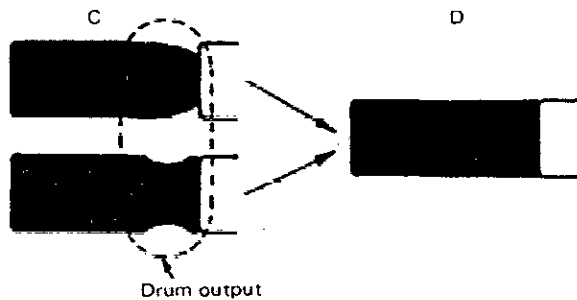

Fig. 29 Drum output adjustment
- In the same manner as for the drum input, turn the take-up guide roller to adjust the falling portion (drum output portion) of the FM waveform. Incorrect examples are shown by C in Fig. 29 while D indicates the correct adjustment.